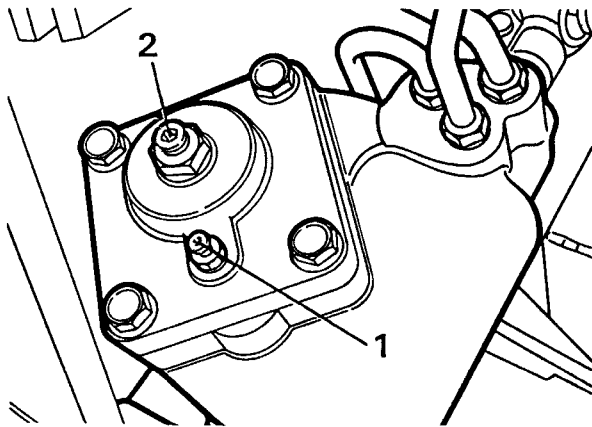

Figure 12B.3
3. Slacken the bleed screw (1, Fig. 12B.3). When fluid seepage past the bleed screw is observed, retighten the screw.